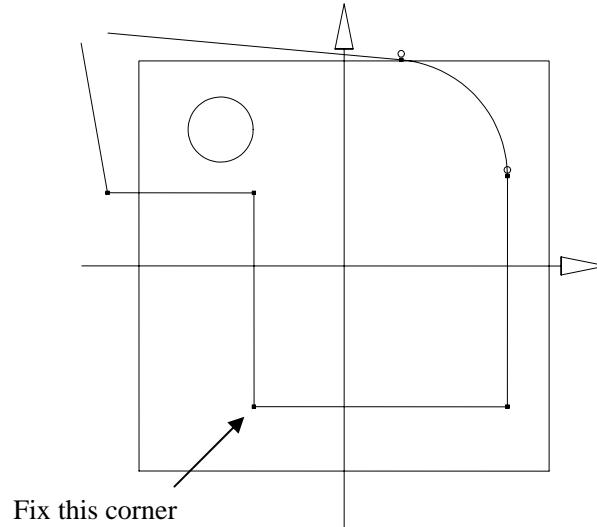

Figure 23
- Construct a sketch that resembles Figure 23. Make sure it is not a closed loop.
- Select the lower left corner of the sketch, as shown in Figure 23.